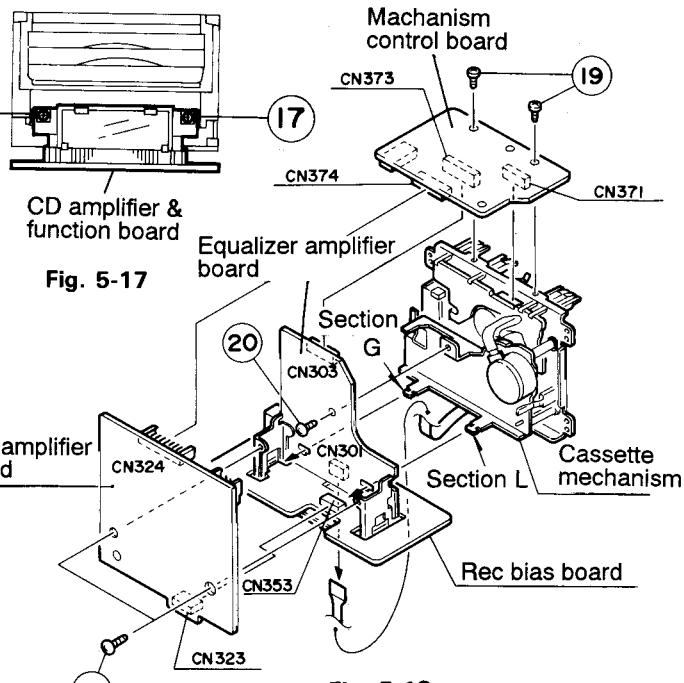

Fig. 5-17
4. Remove two screws ⑰ securing the LCD/System microcomputer board from the front of the CD traverse mechanism (Fig. 5-17).